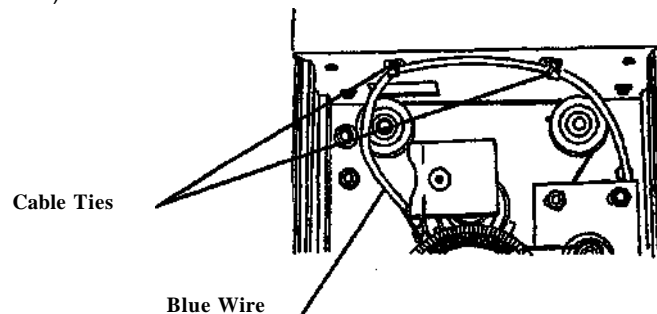

Figure 2. Removing the Blue Connection Wire
3. (Figure 2): Cut the Cable Ties.